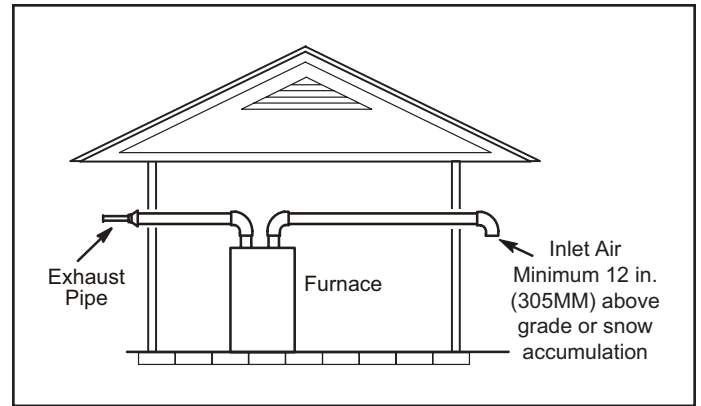
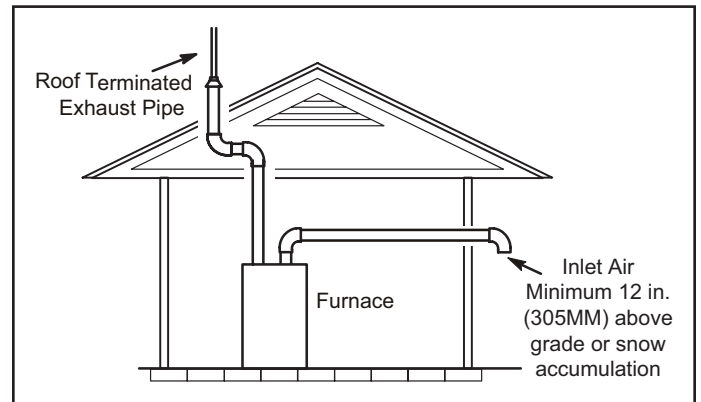

Figure 23. Exiting Exhaust and Intake Vent (no common pressure zone)
Figure 24. Exiting Exhaust and Intake Vent (no common pressure zone)
1. Intake and exhaust terminations are not required to be in the same pressure zone. You may exit the intake on one side of the structure and the exhaust on another side (Figure 23). You may exit the exhaust out the roof and the intake out the side of the structure (Figure 24).